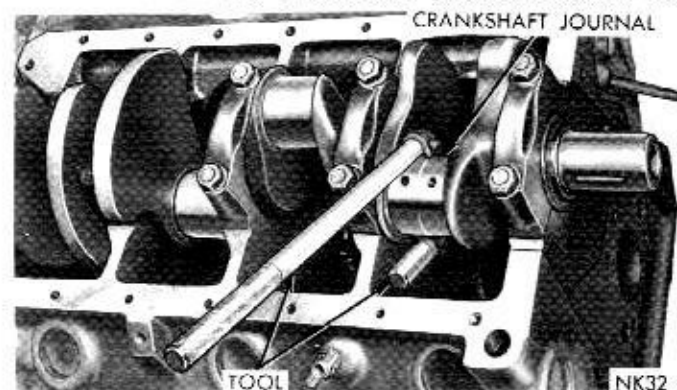

Fig. 39—Removing or Installing Connecting Rod
(3) Immerse the piston head and rings in clean engine oil, slide the ring compressor, Tool C-385, over the piston and tighten with the special wrench (part of Tool C-385). **Be sure position of rings does not change during this operation.**
(4) Install connecting rod bolt protectors on rod bolts, the long protector should be installed on the numbered side of the connecting rod.
(5) Rotate crankshaft so that the connecting rod journal is on the center of the cylinder bore. Insert rod and piston into cylinder bore and guide rod over the crankshaft journal (Fig. 39).
(6) Tap the piston down in cylinder bore, using a hammer handle. At the same time, guide connecting rod into position on crankshaft journal.
(7) The notch or groove on top of piston must be pointing toward front of engine and the larger cham-